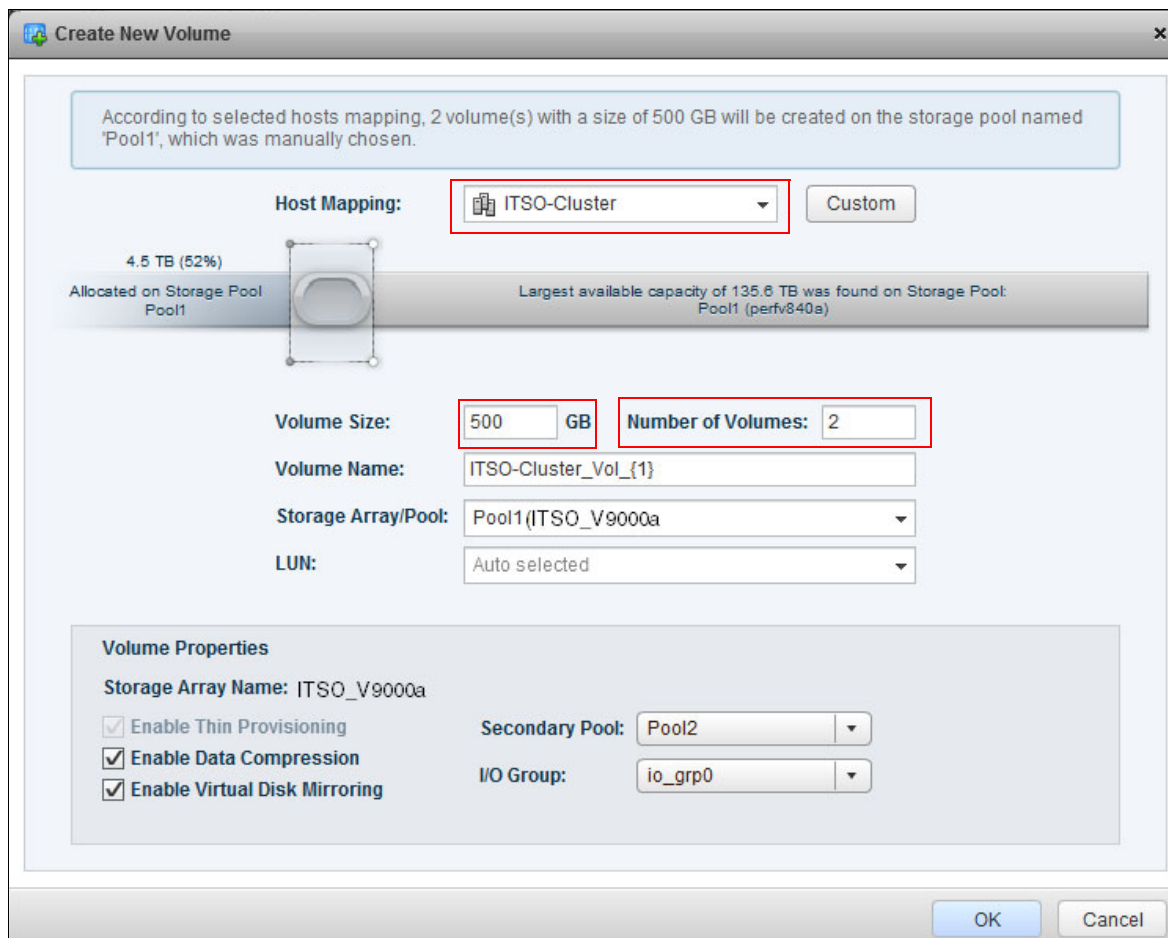

Figure 12-7 Create mirrored volume
2. The Create New Volume window opens (Figure 12-7). The Host Mapping selection field shows that **ITSO-Cluster** is the selected host to be mapped to the newly created volumes. In this example, two 500 GB volumes are created and mapped to ITSO-Cluster.